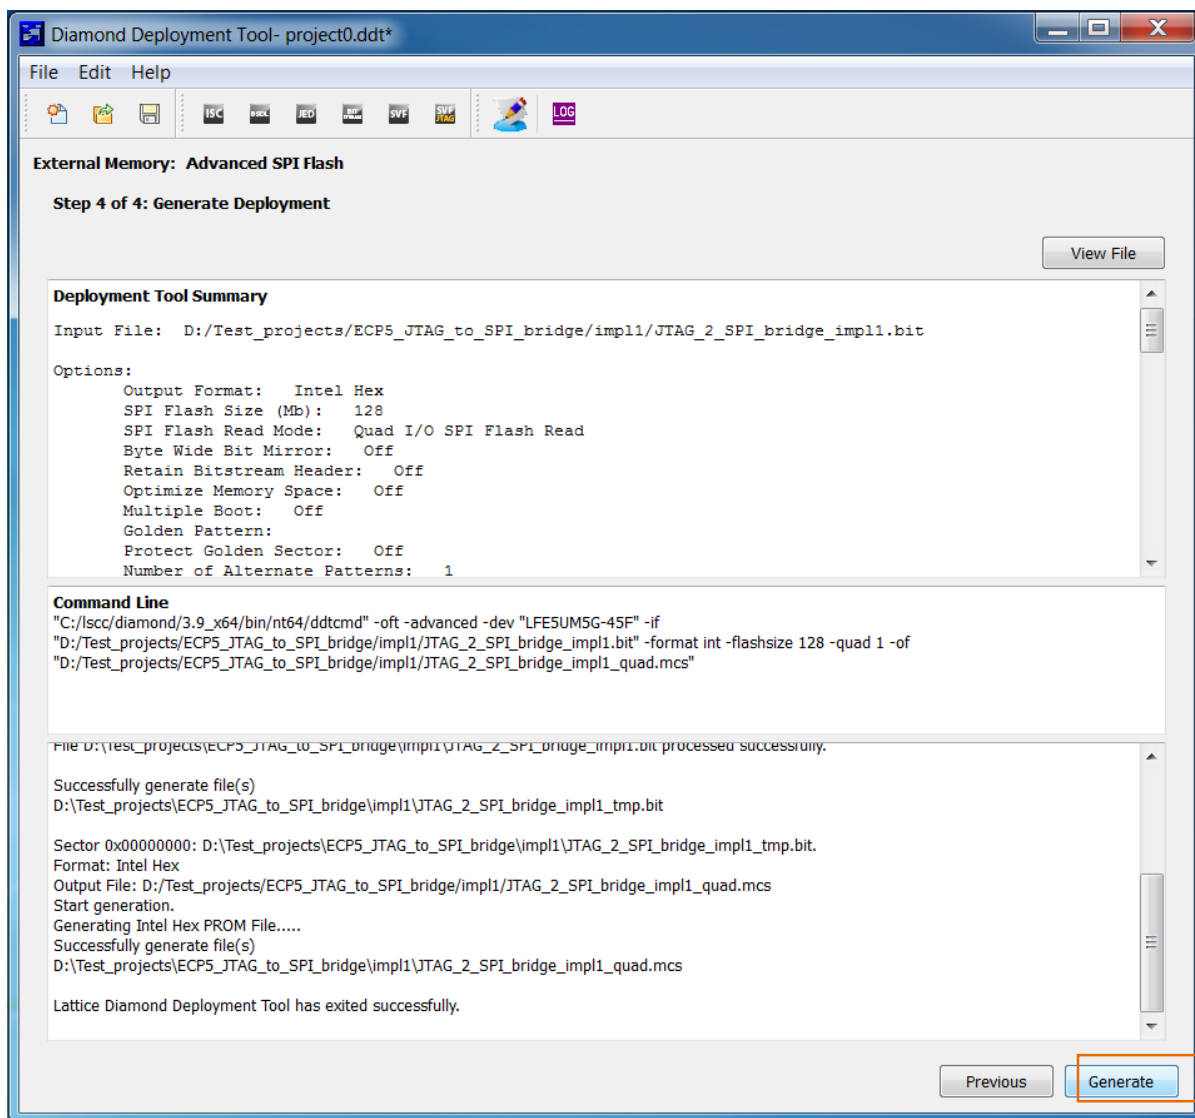

Figure 5.5. Step 4 of 4: Generate Deployment
5. In **Step 4 of 4: Generate Deployment**, shown in Figure 5.5, click **Generate** to generate the *.mcs file from *.bit file.